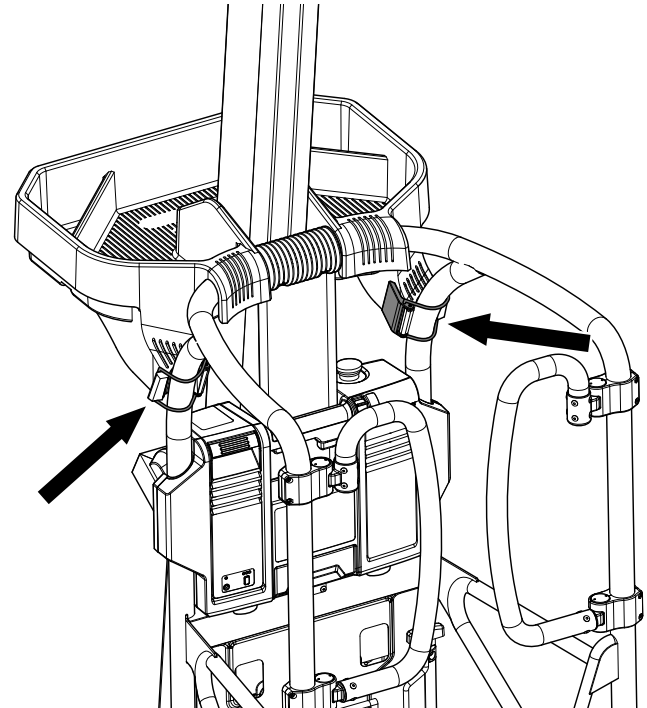

Figure 2-9. Tool tray installation
- Both of the clips are securely attached to the platform rail (Figure 2-9.).